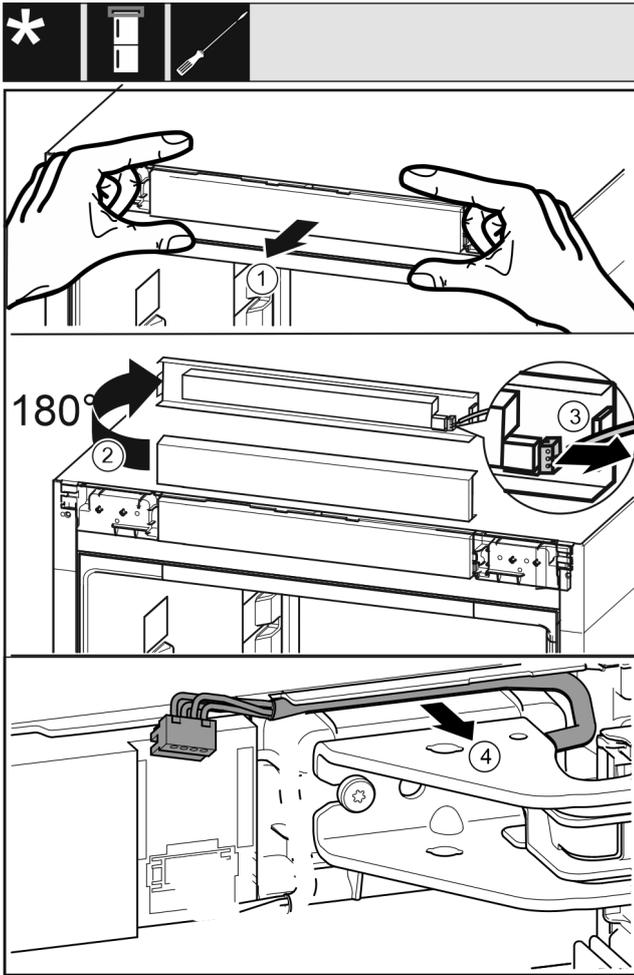

Fig. 22
- ▶ Carefully release the control panel trim Fig. 22 (1) forwards.
- ▶ Turn the control panel trim Fig. 22 (2) upwards by 180°.
- ▶ Push the locking tab Fig. 22 (3) backwards and remove the plug carefully.
- ▶ Release the cable over the swap bearing block Fig. 22 (4) from the guide carefully.